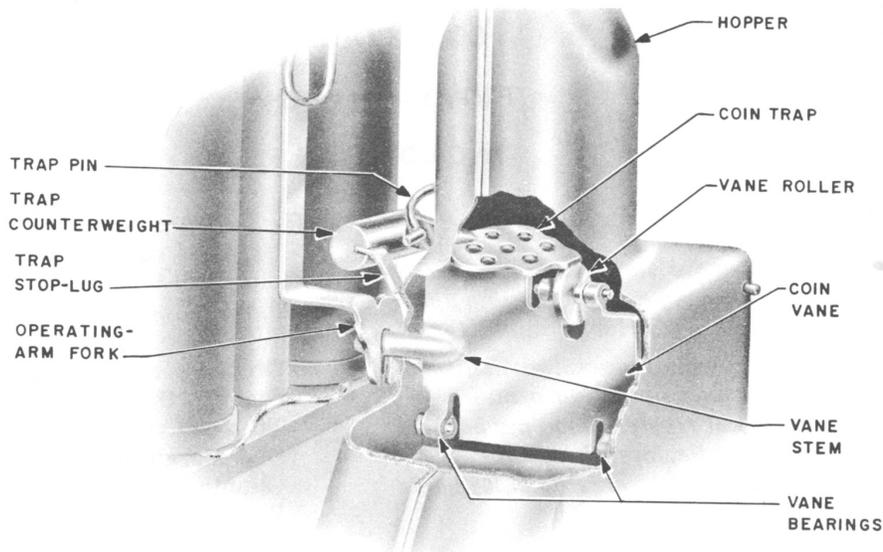

Fig. 2 - Hopper and Rear of Coin Relay
- (4) Check trap for catching on vane or on vane roller as follows:
- (5) Check clearance between trap and vane roller as follows:
- (b) Move vane to vertical position. If vane rubs on trap, adjust trap stop lug so that trap will just clear vane (Fig. 2).
- (c) With vane in vertical position, lift trap counterweight. Trap should not move more than a few degrees before touching vane roller. Adjust by bending stop lug. (See Fig. 2.)
- (6) Check operating arm fork and vane stem for roughness. Clean and lubricate as covered in 4.10. Also check operating stud. If stud is rough or roller type, replace relay.
- (7) Remount coin relay as covered in 4.11 and repeat trap and vane release test. If mechanism fails, replace relay.